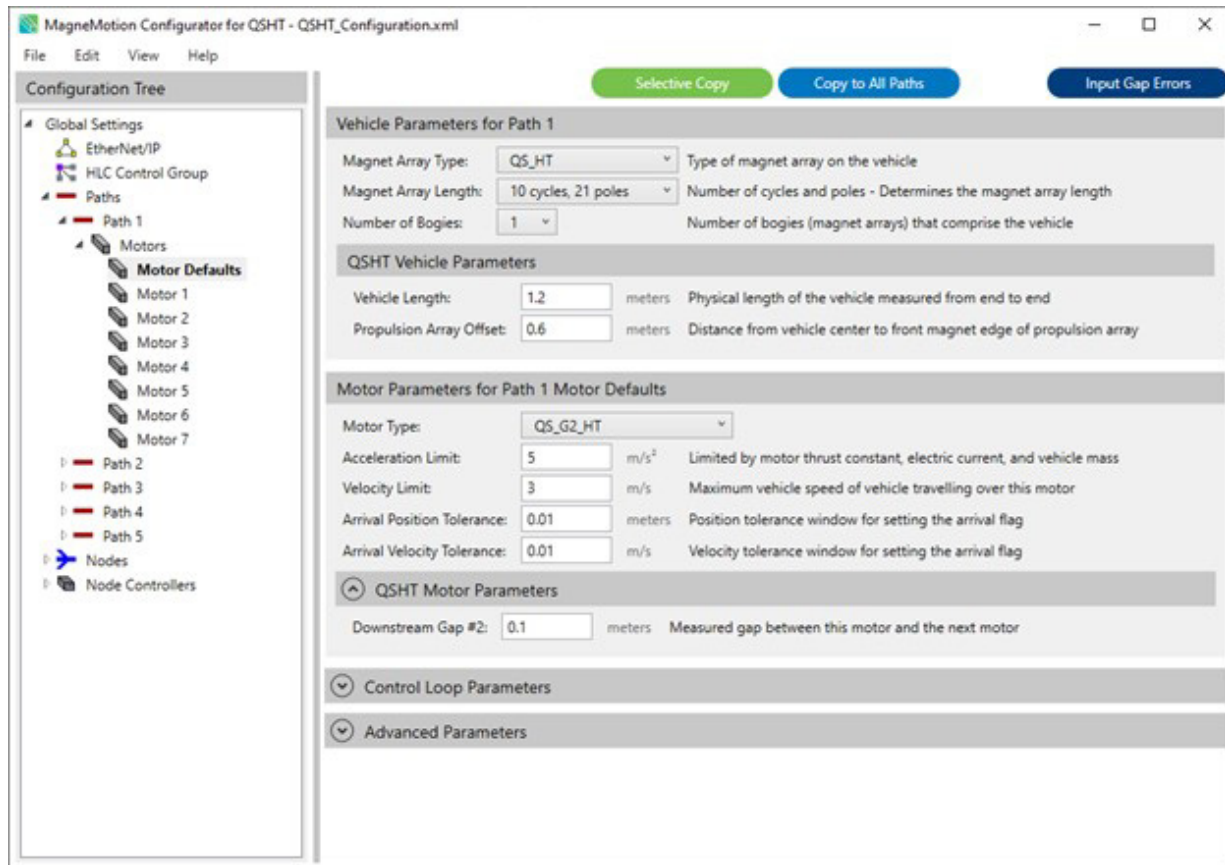

Figure 4-43: Copy to All Paths
3. Select **Copy to All Paths**. See the second button along the top of the Configuration Settings Pane in Figure 4-43.